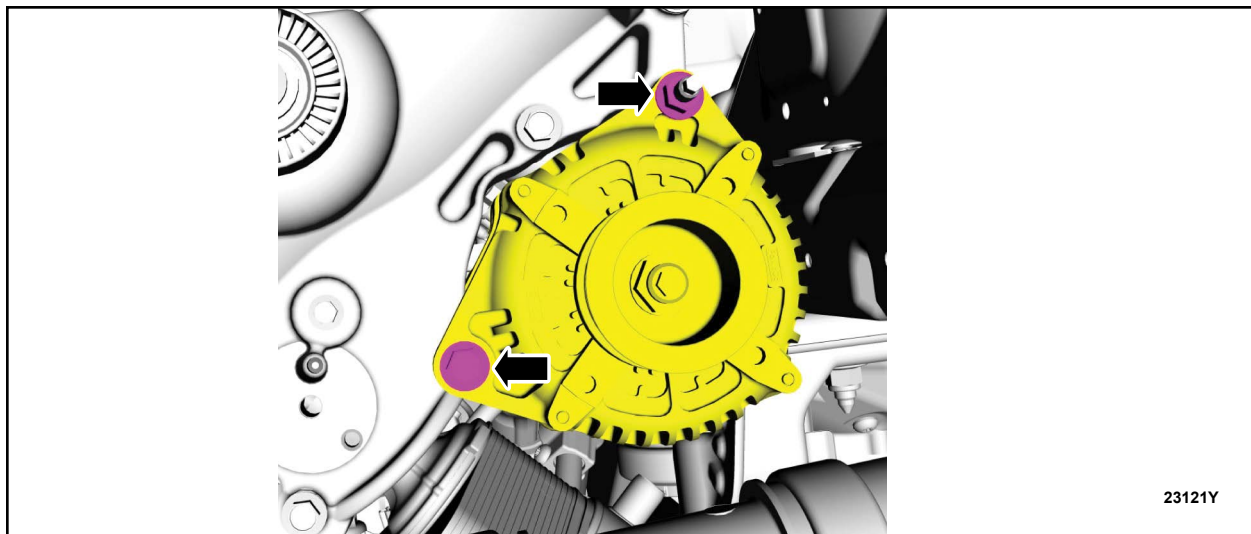

FIGURE 44
27. Install the generator and the fasteners. See Figure 44.